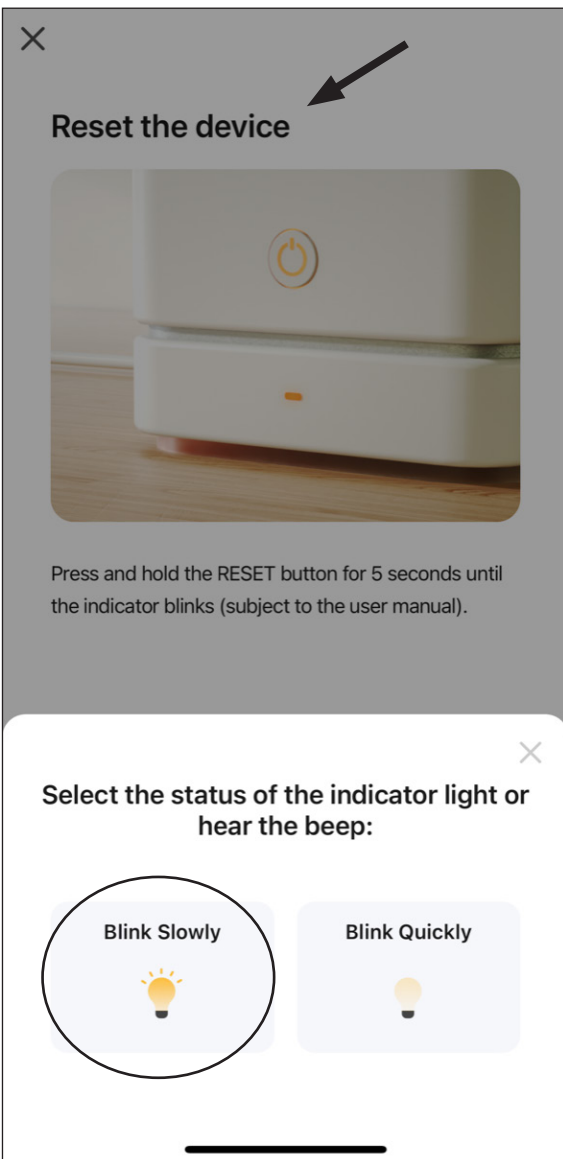
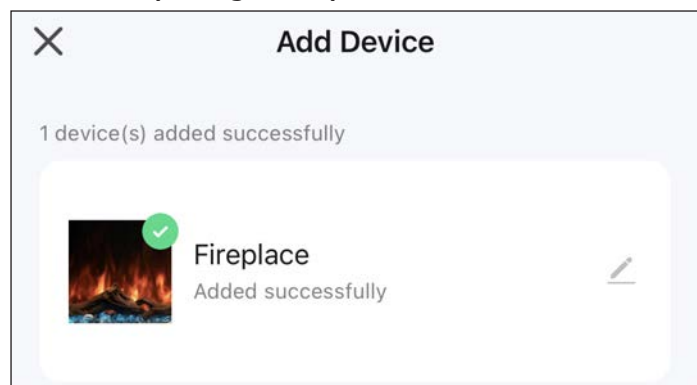

Figure 23: Fireplace Pairing
Figure 24: Fireplace Successfully Paired
7. With the fireplace now in pairing mode select the **Blink Slowly** option on the **Reset the Device** screen in the app (see figure 23). The app will begin pairing to the fireplace on a timing screen and automatically finish once pairing is successful (see figure 24).